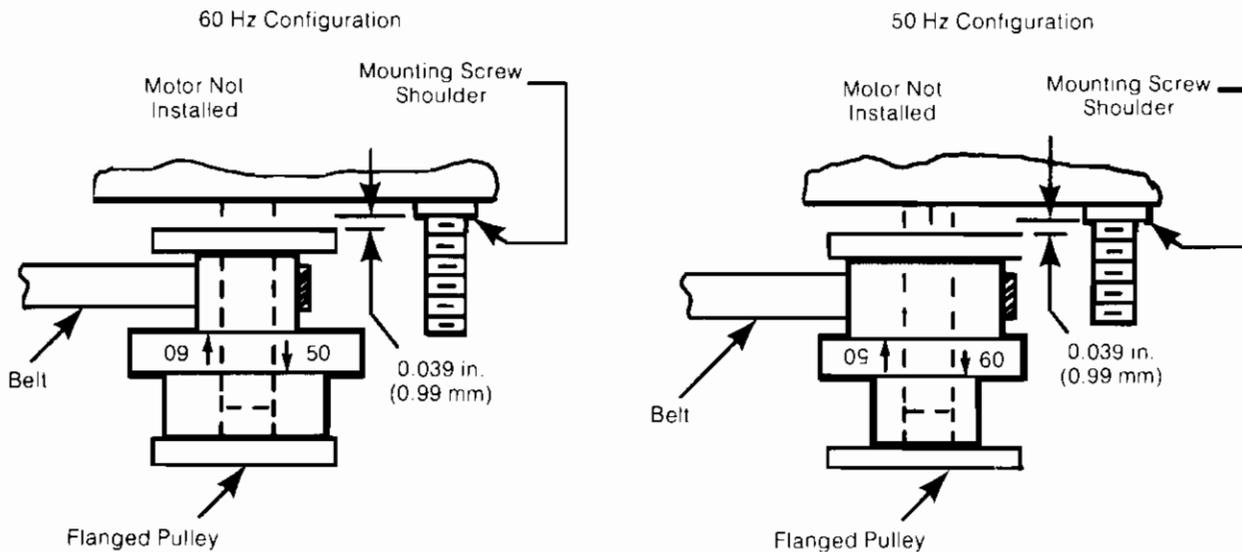

Figure 3-15. Drive-Pulley Reversal
6. Position pulley allowing clearance of 0.039 inch,  $\pm 0.010$  inch between shoulder of motor mounting screws and pulley (Figure 3-15).